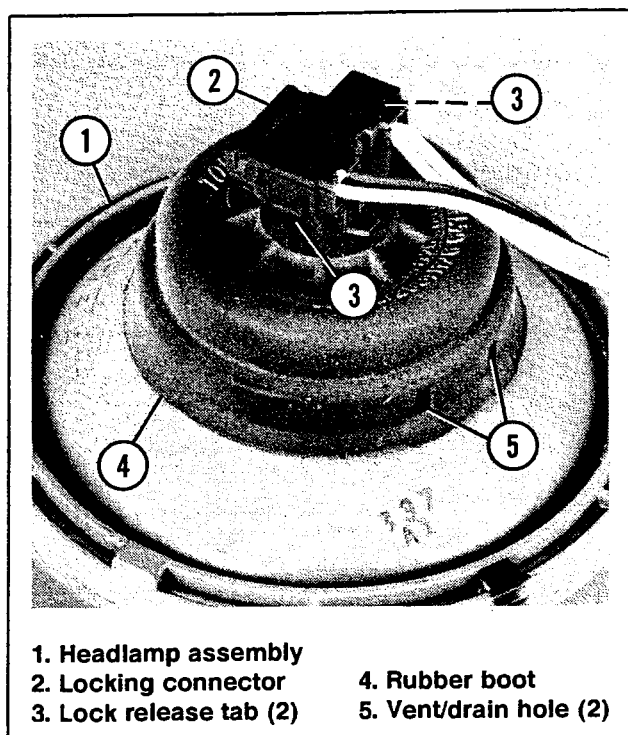

Figure 3. NAL Headlamp with Locking Wiring Harness Connector
See Figure 3. In addition to the new headlamp assembly (1), a new headlamp wiring harness connector (2), with locking terminals, was introduced into production in January 1992 as a running change on the following 1992 models:
2. For NAL headlamp models **with** locking wiring harness connector (2) (i.e. - all XLH Sportster, and all FXR except FXLR and FXRT), see Figure 3. Firmly depress lock release tabs (3) on left and right sides of connector. While holding both lock release tabs down, carefully pull connector from headlamp terminals.
3. See Figure 3. Remove rubber boot (4) from back of headlamp assembly (1).
5. Pivot wire retaining clip away from element (2). Remove element from headlamp assembly.
6. Installation is the reverse order of removal. See Figure 3. Rubber boot (4) must be installed with vent/drain holes (5) positioned to the bottom.